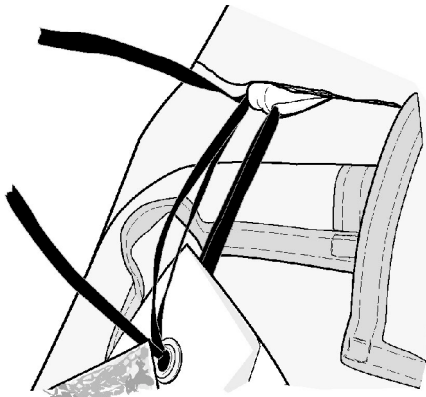

Figure 10. Sealed Canopy Tie
d. Route one end of the doubled nylon lacing tape back through tack loop and then back through grommet, forming two turns of doubled lacing tape. Tie off with a surgeon's knot, followed by a square knot. Loop should be approximately the size of a 50 cent piece (Figures 10 and 11).